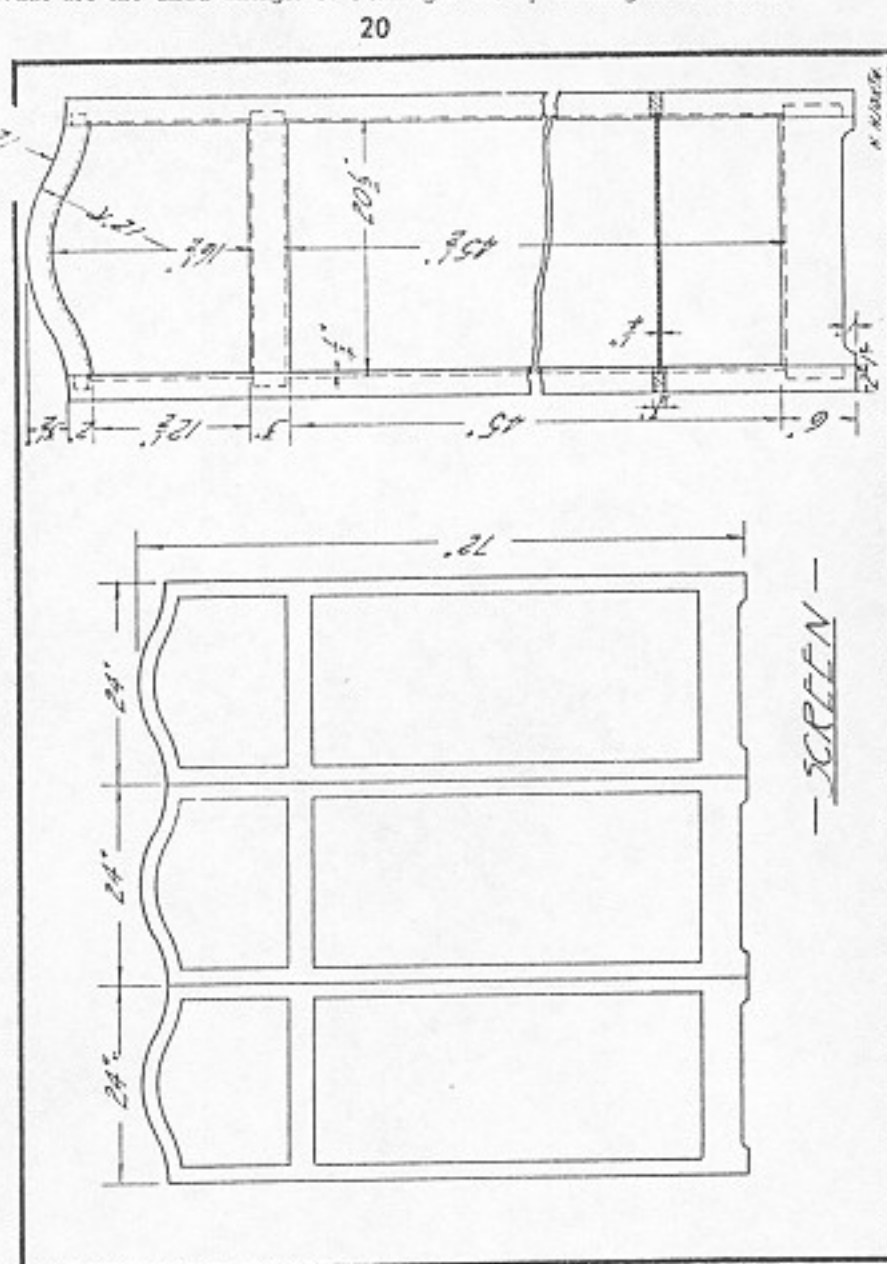
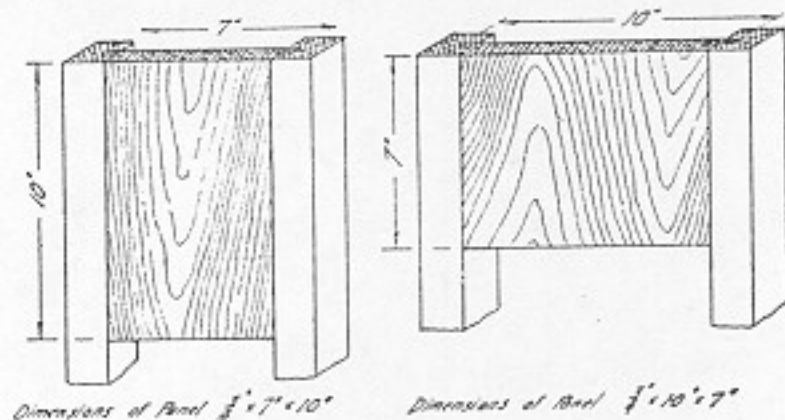

Fig. 34.
Fig. 35. Dimensions of two side panels. The width of one is greater than its length.
9. Making out Bills of Material. 1. Before beginning the work of laying out, a complete list must be made of all the different pieces of lumber needed for a job. Such a list is called a "bill of material" or a "finished-stock list." It is made out directly from the drawing, which shows the dimensions of each piece and the method of construction (Fig. 34).
greatest dimension, but there are cases where the width is greater than the length (Fig. 35, and upper panels of the screen Fig. 34).
4. How many board feet of lumber are needed for making the screen in Figure 34?